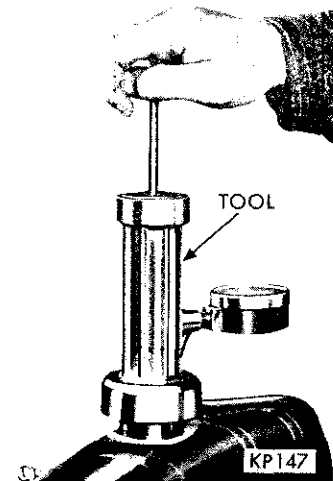

Fig. 8—Pressure Testing the Cooling System
(1) Wipe the radiator filler neck sealing seat clean. The water level should be ½ inch below the neck of the radiator:
(2) Attach the tester, Tool C-3499 to the radiator, as shown in Figure 8 and apply 15 pounds pressure.